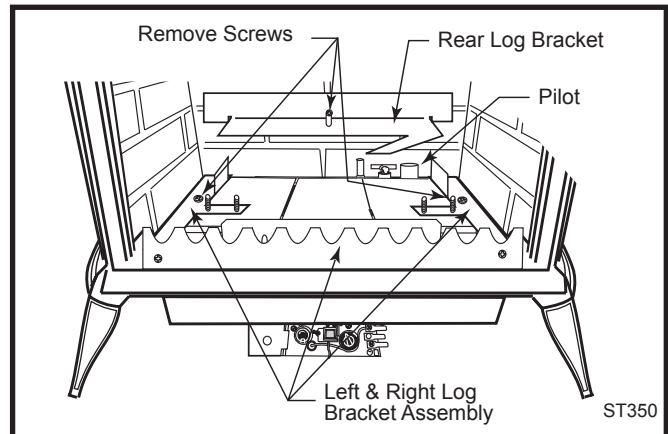

Fig. 53 Remove rear log bracket and left and right log bracket assembly.
5. Remove the rear log bracket by loosening the screw and lifting the bracket up and away. (Fig. 53)
6. Remove the right and left log bracket assembly by unfastening the two screws which hold the burner in place. (Fig. 53)
1. Locate pilot. (Fig. 53)